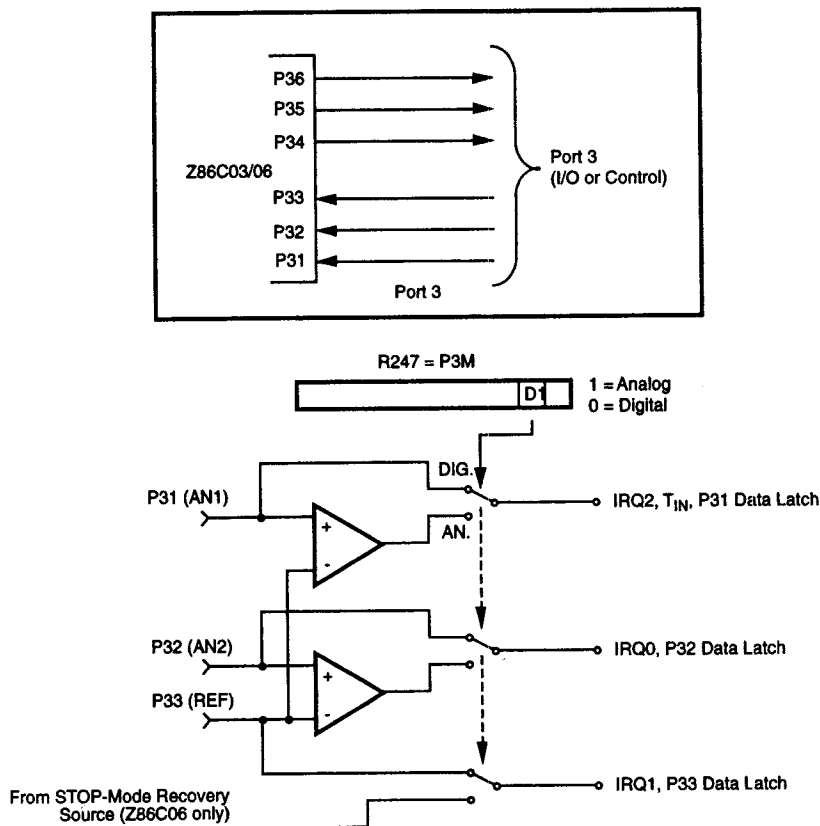

Figure 5a. Port 3 Configuration
In the Z86E06, pin P34 can also be configured as SPI clock (SK), input and output, and pin P35 can be configured as Slave Select (SS) in slave mode only, when the SPI is enabled (Figures 5a and 5b).